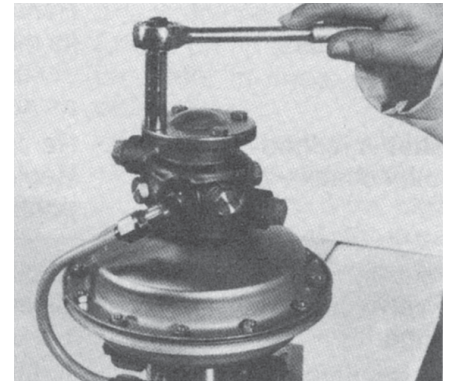

Figure 4-2 Removing air valve cover.
4.3 Unscrew the four cap screws (3) to remove the air valve cover (1) and its O-ring (2). See Figure 4-2.